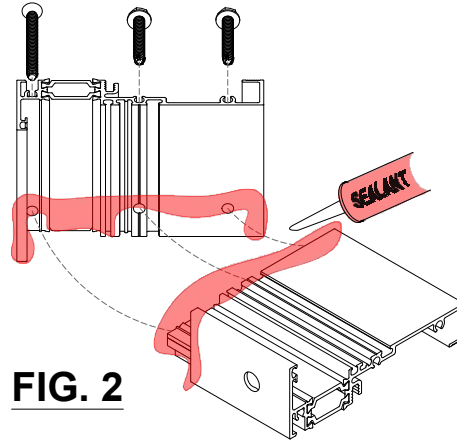

FIG. 2
- Apply *DOWSIL 791* sealant to the both ends of the profile. **See FIG 2.**
- Pump the sealant across the gutter area slightly higher than the voids in section profile. **See FIG 2.**
- Pre-insert Exterior Alignment Clip into gasket race. **See FIG 2.**
- Determine the location by using a cut off piece of the vertical mullion. Lock the Alignment Clip by tightening set screw using $\frac{3}{32}$ " Hex Key. **See FIG 2.**